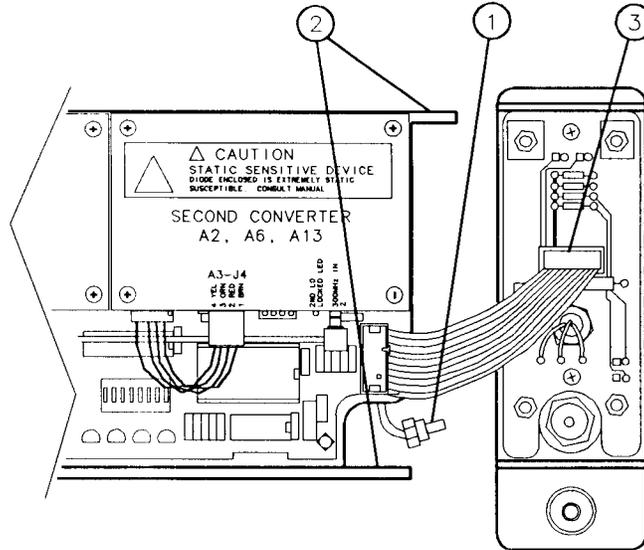

Figure 6-7. A7 Front Panel Replacement
3. Disconnect the W1 semirigid cable from the chassis J1 (1). See Figure 6-7.
4. Remove the two top and the two bottom screws securing the front panel to the module frame (2).
5. Remove the W12 ribbon cable from A7J1 (3).